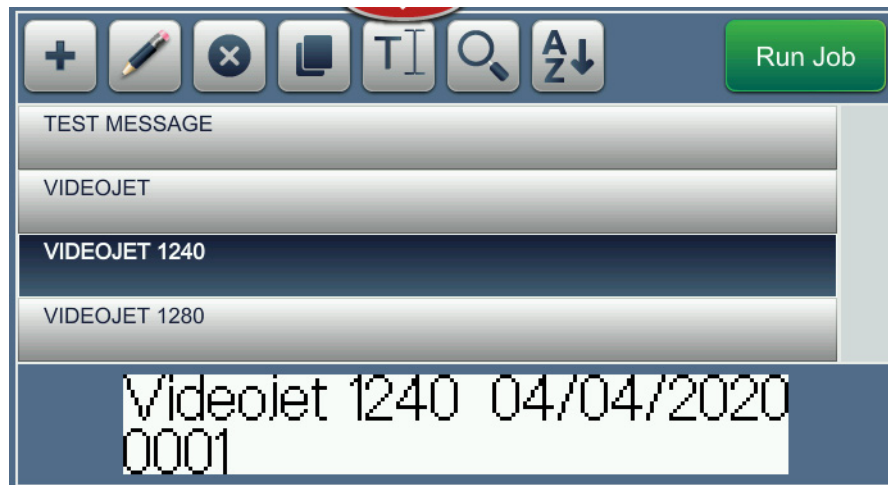

Figure 5-23: Job List
32. The job "VIDEOJET 1240" is added to the job list as shown in Figure 5-23.